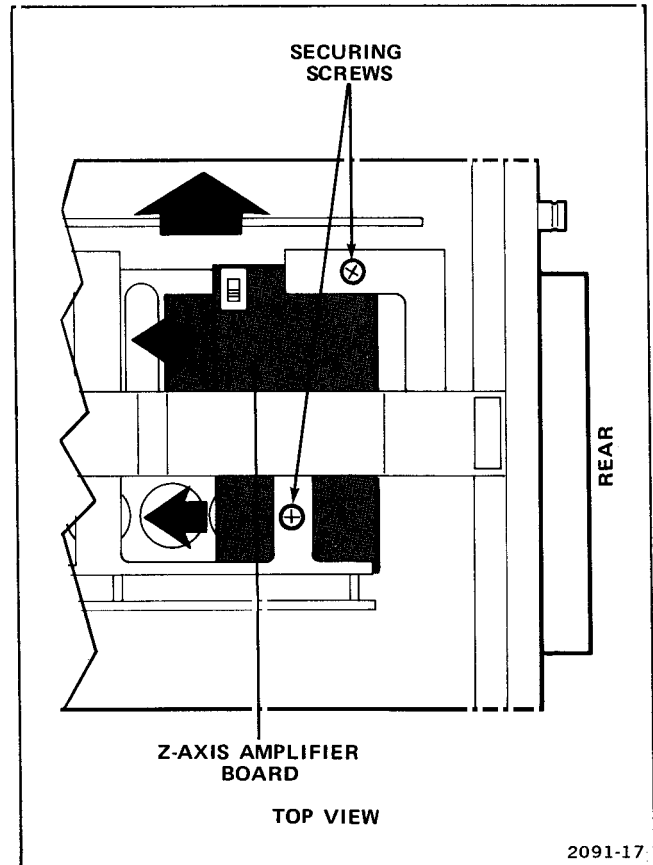

Figure 5-3. A2—Z-Axis Amplifier board removal and replacement.
**Z-AXIS AMPLIFIER BOARD—A2.** Remove and replace the Z-Axis Amplifier board as follows (see Fig. 5-3):